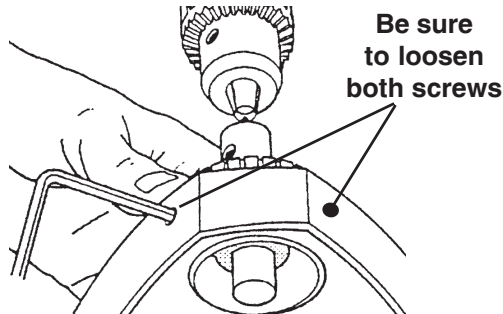

Figure 110
- a. To adjust the Cup Center Point horizontally, loosen the Set Screw that locks the Adjustable Center, as seen in Figure 110. Rotate the Adjustable Center as needed to line up the Cup Center with the Drill Chuck, then tighten the Set Screw.